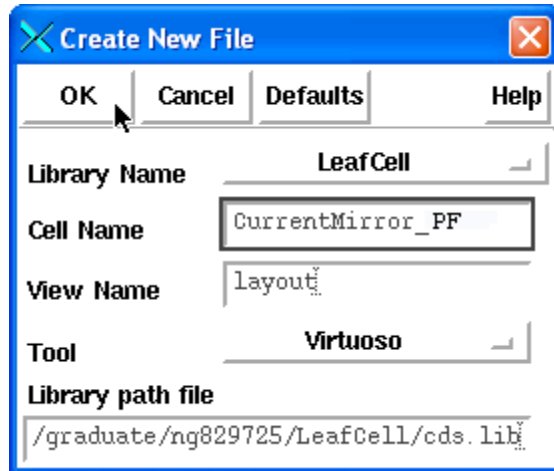

Figure 107: Getting the metal only.
1. Create and CurrentMirror_PF Layout view (Figure 107).